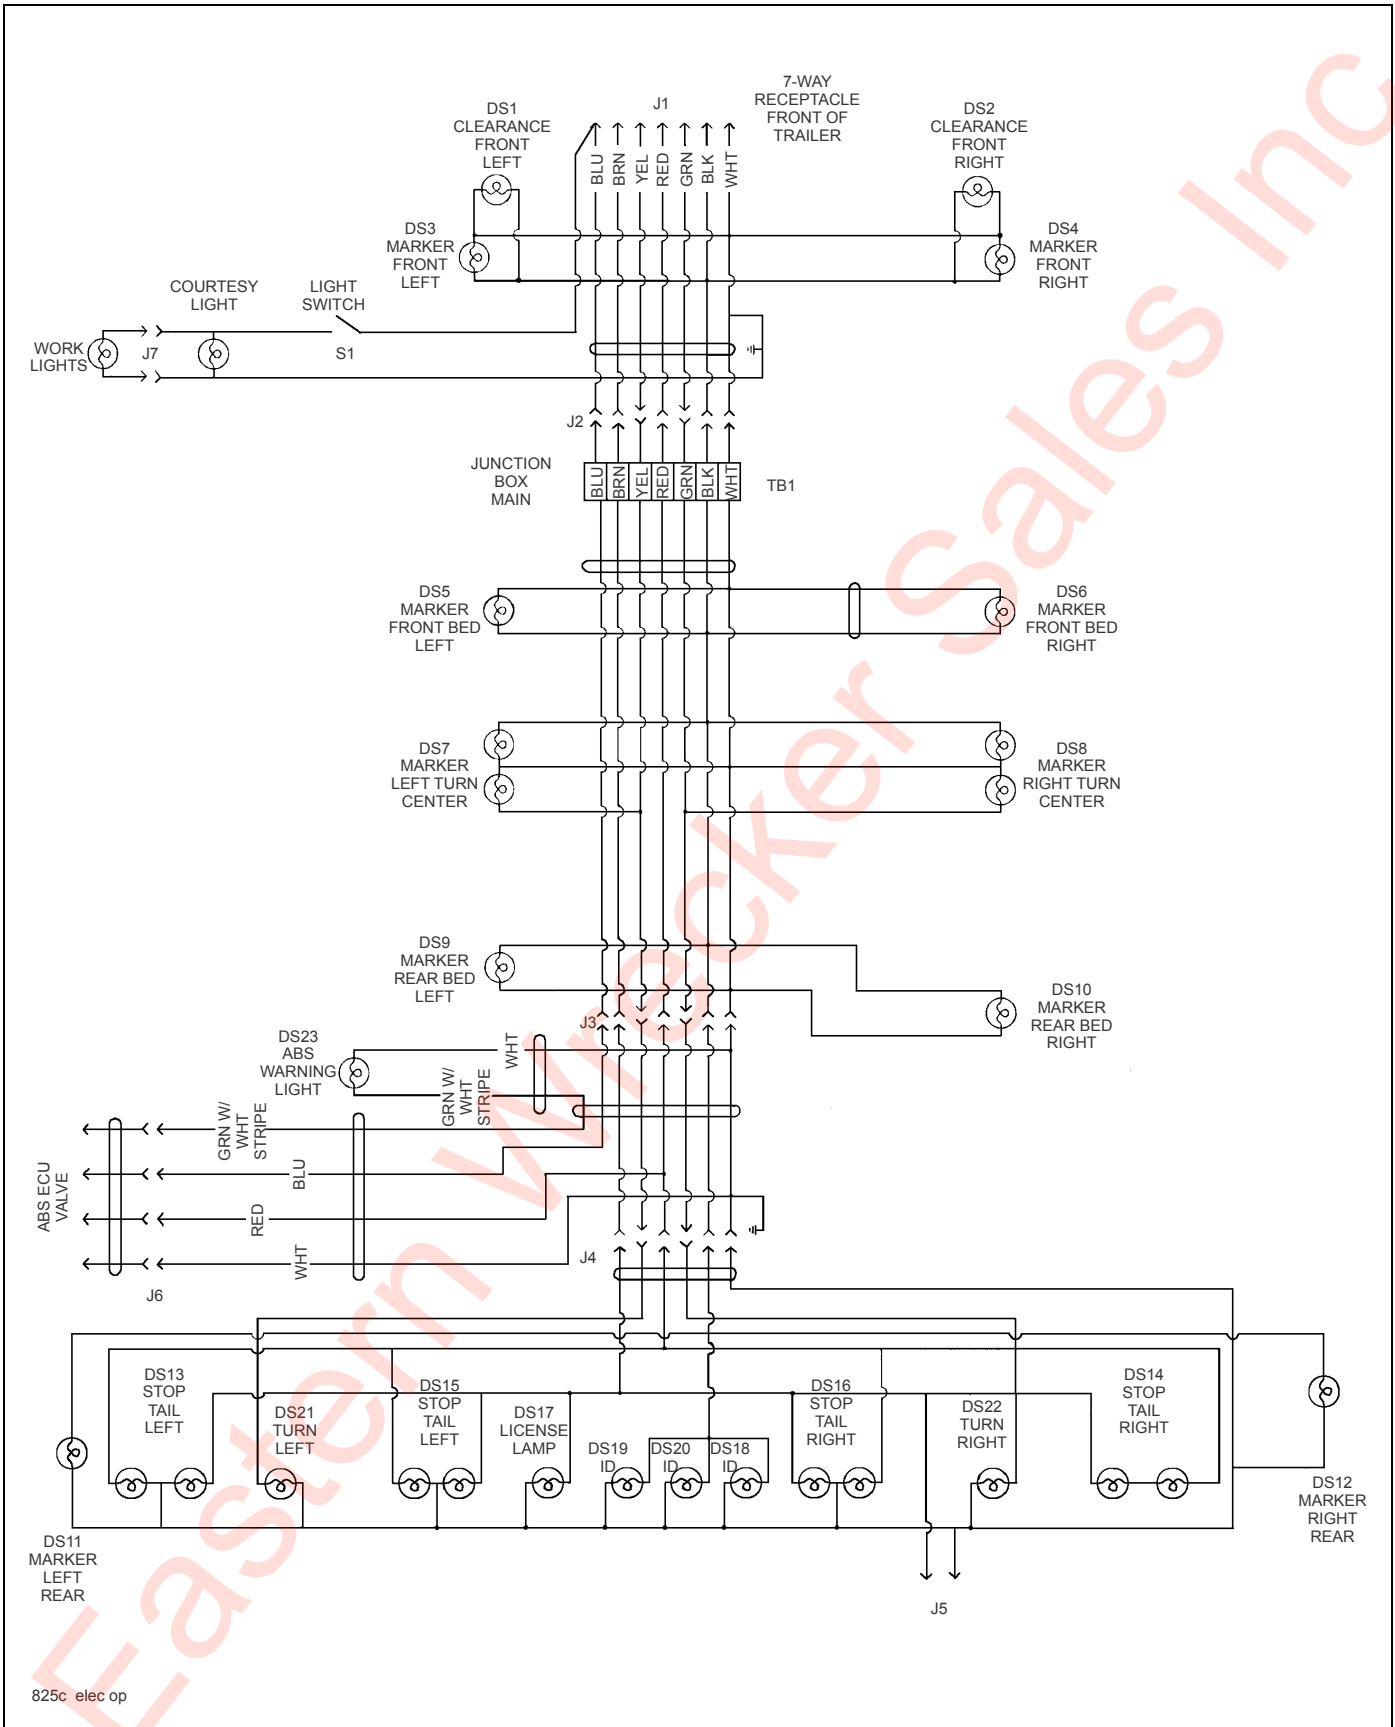

Figure 4-3: Model 825D/835D Wiring Diagram
1. Maintenance of the electrical system consists of inspection and minor servicing. Any wire, connection or electrical component showing signs of corrosion, wear, breakage or unraveling must be repaired or replaced. (See Figures 4-3 and 4-4 for electrical wiring diagram)